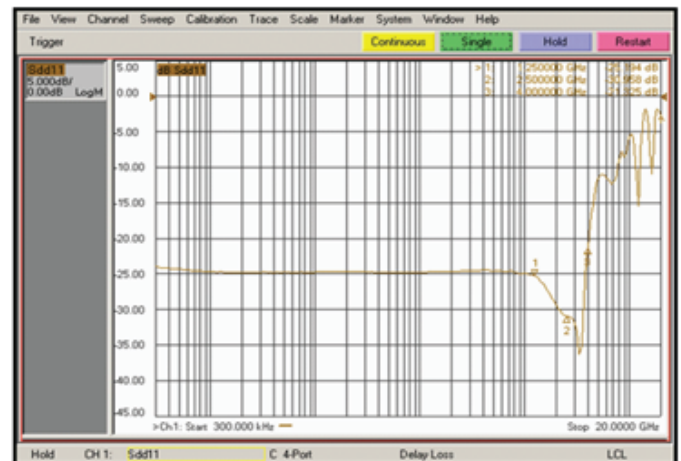

Fig.2 Return Loss
4. **Return Loss** is basically caused by impedance mismatch between circuits. Switches with excellent return loss performance ensure optimum power transfer through the switch. Fig 2. shows the return loss for Pericom 's PI3USB304 (-30dB @2.5GHz)